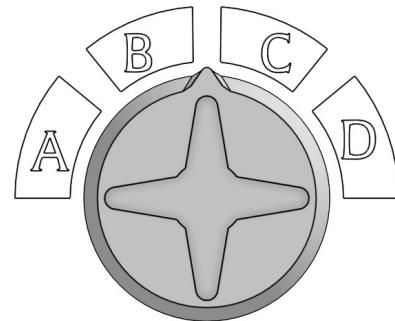

Figure 4: Rotation Zones in **Pulsed light™** mode
2. **Response:** The vault opener rotates control to appropriate zone (**Figure 4**) depending on: the number of long and short pulses received; the pre-configured access code mapping (**Table 3**).